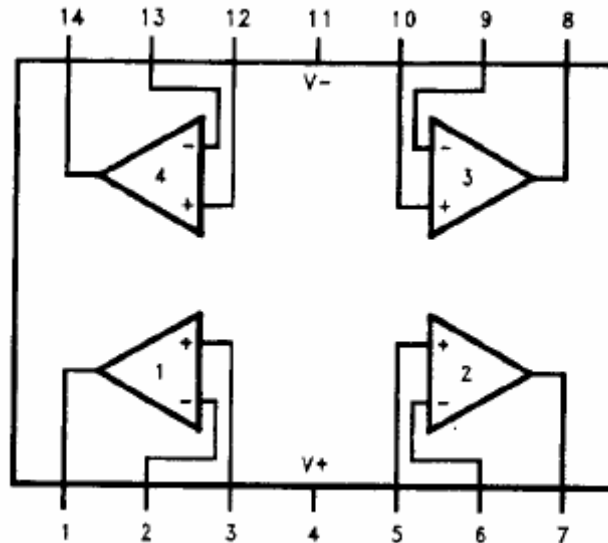
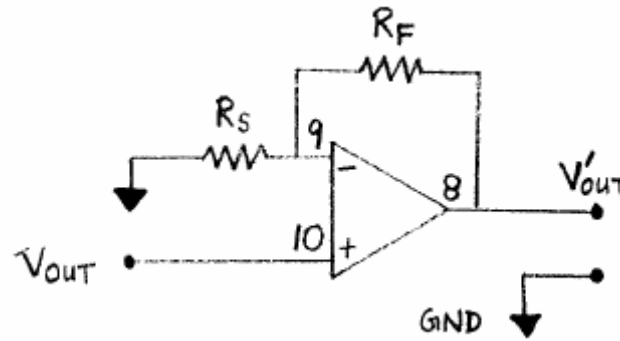

Figure 4: NTE 987 Connection Diagram
Figure 6: Amplification Circuit
The voltage output from the Wheatstone bridge is amplified by the NTE 987 (Quad op-amp)³ operational amplifier, shown on the right side of the dotted line in Figure 3. The NTE 987 contains four op-amps with identical capabilities (see Figure 4); any one of these can be used. The pin numbering in Figure 3 is according to op-amp number 1. Care must be taken while connecting the amplifier in the circuit. Reversing the power (V^+ connection 4) and ground (V^- connection 11) connections will heat up the amplifier and ultimately burn it.
- Add the circuit shown in Figure 6 to the circuit you built in Experiment #1. Use op-amp number three (pin numbers 8, 9, and 10) on the NTE 987 (Figure 4). Choose the source resistor R_S and the feedback resistor R_F according to one of the combinations below (ask GTA which combination to use)